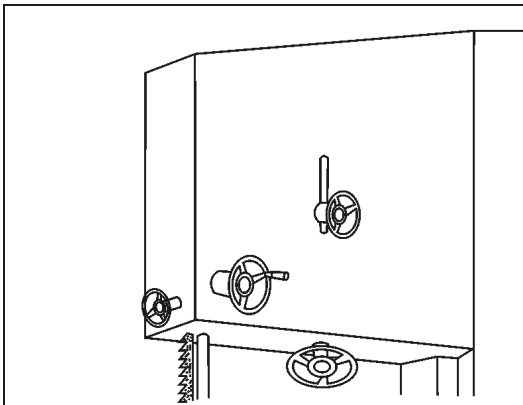

Fig. 4
- 1.4 Turning the upper saw blade wheel by hand and adjust the adjusting handle on the back of the saw blade wheel to check the track of the saw blade, ensure the saw blade move the right way around the wheel center.(See Fig.4)